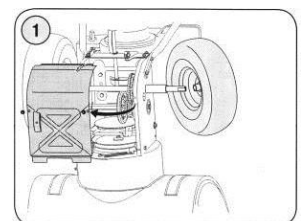

Figure 21
- and bell washer which secure it to the axle. See Figure 21.